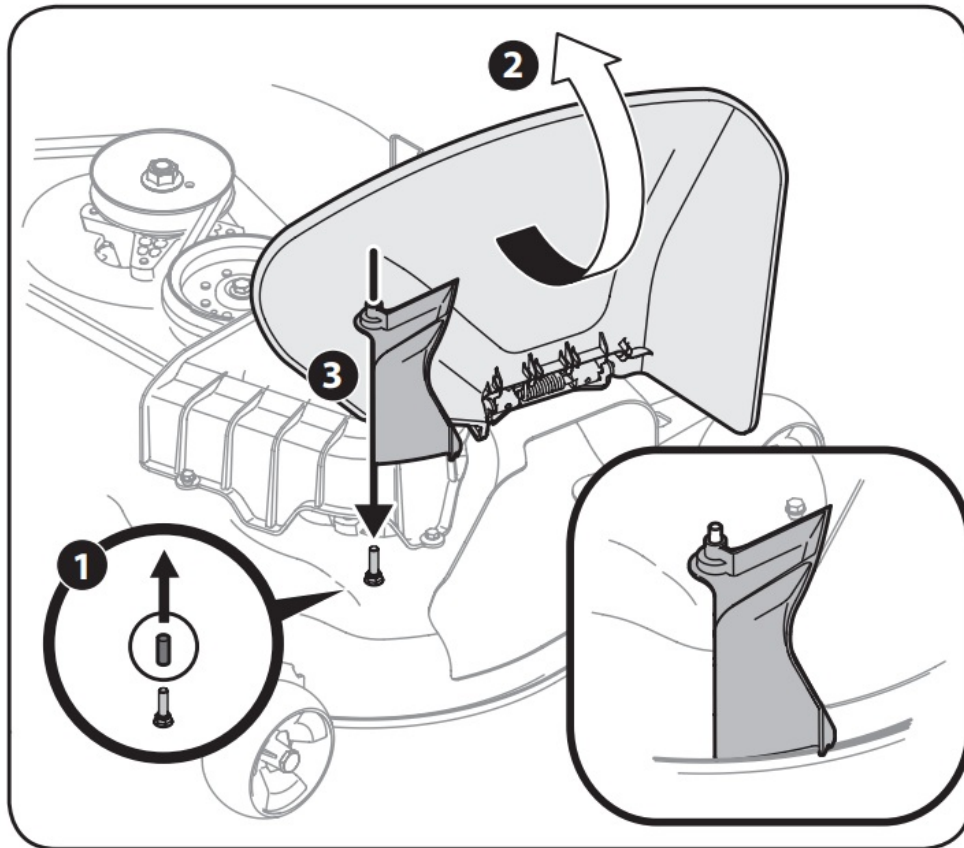

Figure 4-21
2. Remove the deck pin rubber protective cap, 1 in Figure 4-21.
3. Raise the chute deflector (2 in Figure 4-21) on the deck and hold it while you install the (731-10133) chute adapter(3), included in hardware pack 689-00341, onto the deck as shown in Figure 4-21.